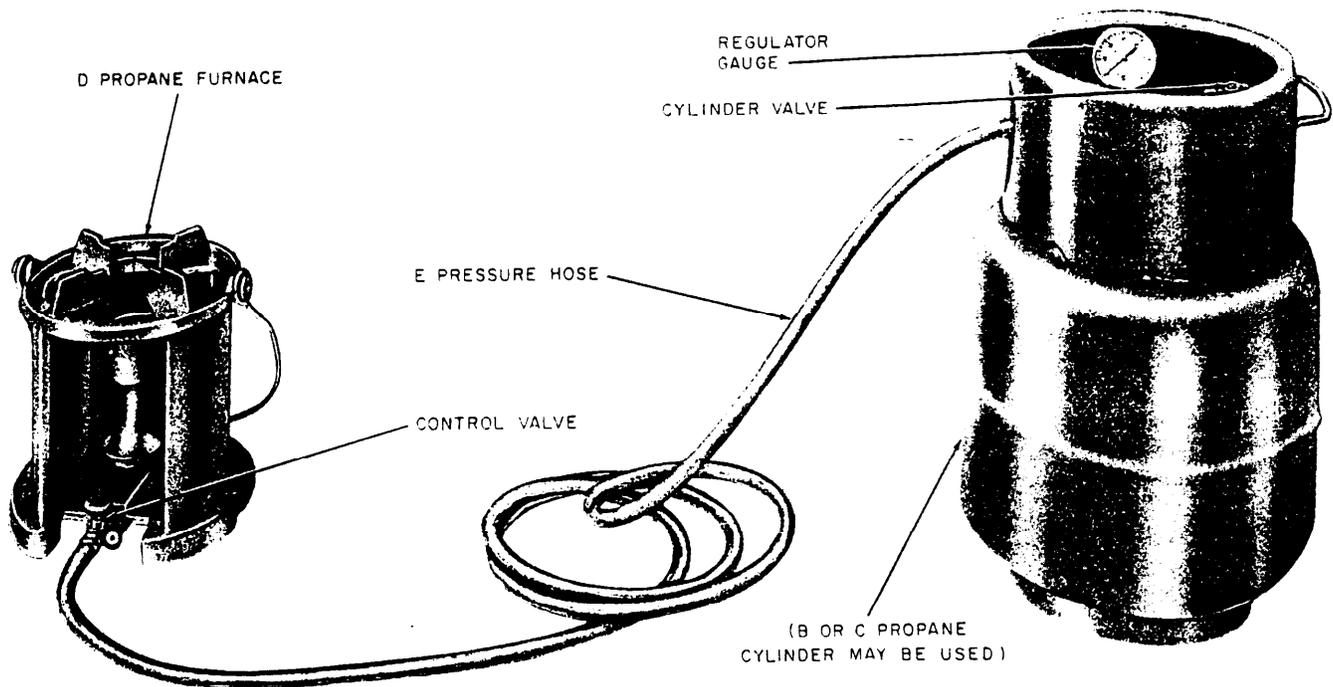

Fig. 4 - Typical Setup
- 2.04 Figure 4 illustrates a typical setup of the D Propane Furnace.
- 4.03 To operate the furnace connect the regulator to the propane cylinder and the E pressure hose to the regulator and furnace, as shown in Fig. 4, using B or C regulator wrench to tighten the connections.